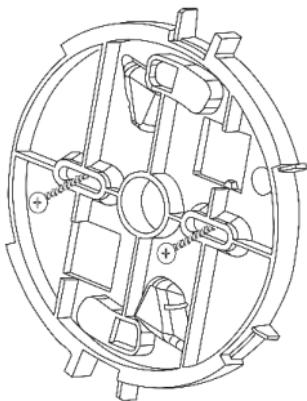

Figure 3
3. Using the mounting holes as a template secure the mounting bracket to the mounting surface (see Figure 3).